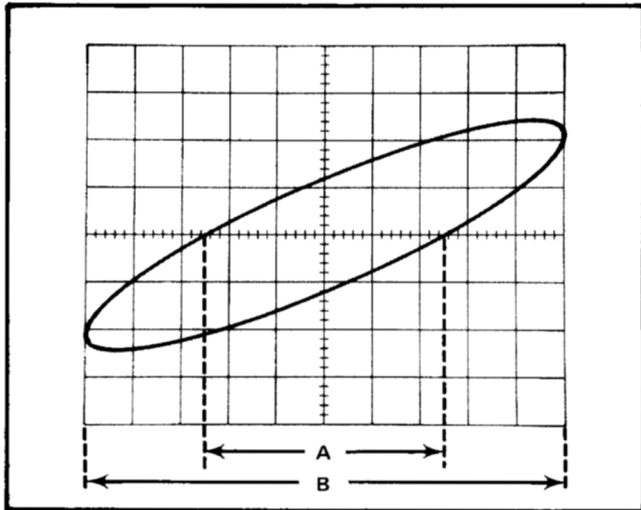

Fig. 2-28. Phase-difference measurement from an X-Y display.
3. Position the display to the center of the screen and adjust the VOLTS/DIV switches to produce a display less than six divisions vertically (Y) and less than 10 divisions horizontally (X). The CH 1 VOLTS/DIV switch controls the horizontal deflection (X) and the CH 2 VOLTS/DIV switch controls the vertical deflection (Y).
4. Center the display in relation to the vertical graticule line. Measure the distances A and B as shown in Fig. 2-28. Distance A is the horizontal measurement between the two points where the trace crosses the center horizontal line. Distance B is the maximum horizontal width of the display.
Example. Assume an inherent phase difference of 2° with a display as shown in Fig. 2-28 where A is 5 divisions and B is 10 divisions.